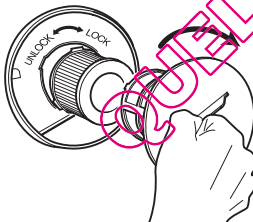

Fig. 26
13. Insert the filter screen again by turning it clockwise (Fig. 26).